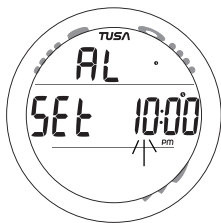

Fig. 21 - SET DAILY ALARM
**SET DAILY ALARM**, information provided includes (Fig. 21):